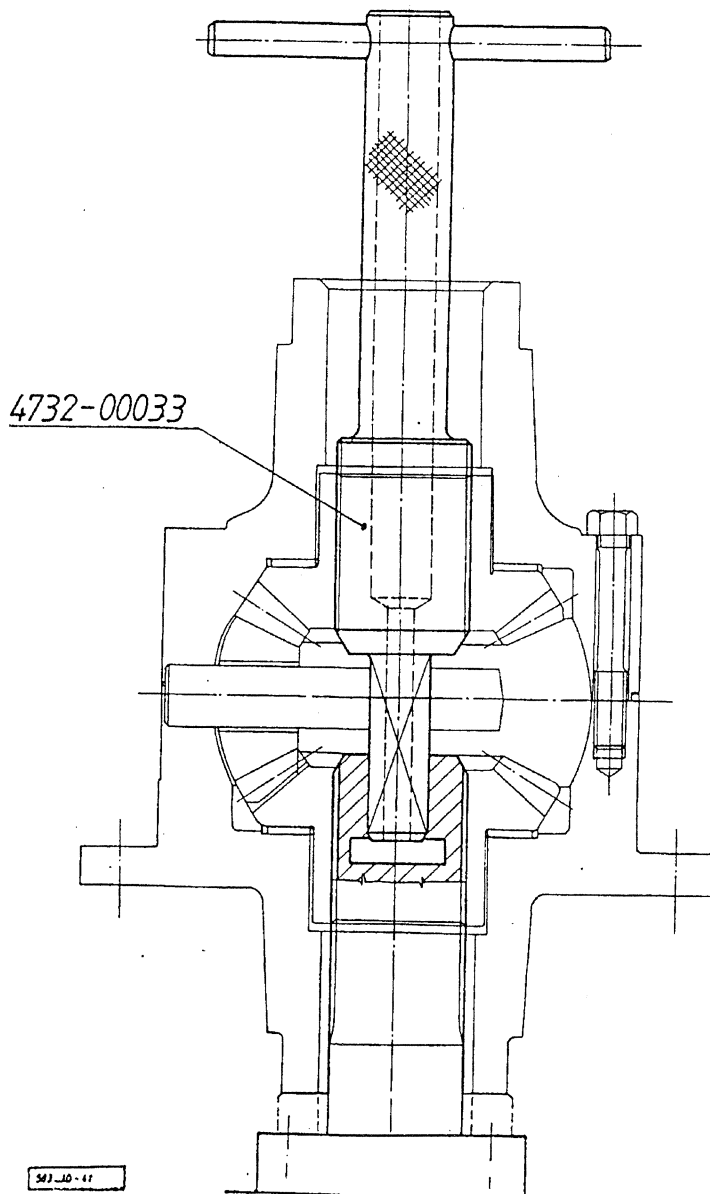

Fig. 2.: ASSEMBLING AND CHECKING THE DIFFERENTIAL
Pull the flanged differential case half (31) over the lower service mandrel (see Fig. 2.). Insert the spacer (26) and the differential gear (27) as well as the spider (28) subassembled with shims (30) and differential pinions (29). Following this insert the other differential gear and the spacer.